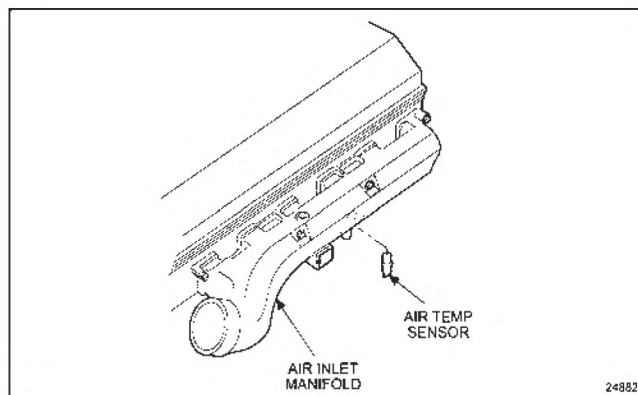

Figure 2 Air Temperature Sensor Location
8. Using a drill press and a 9/16" drill, drill and tap a 3/8" pipe port for the Air Temperature Sensor (ATS), between #3 and #4 intake air ports in manifold. See Figure 2.